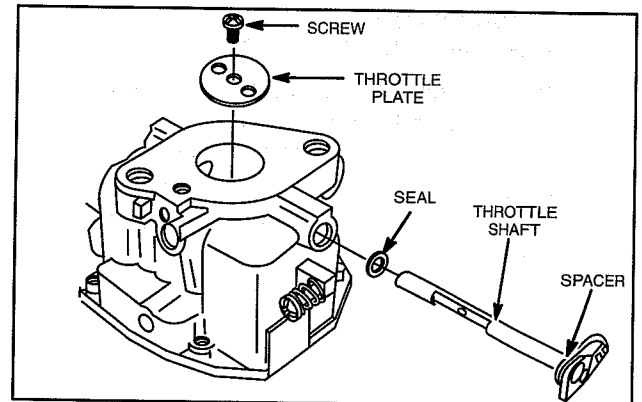

Fig. 83 – Remove Throttle Shaft
- a. Remove throttle shaft and spacer, Fig. 83.